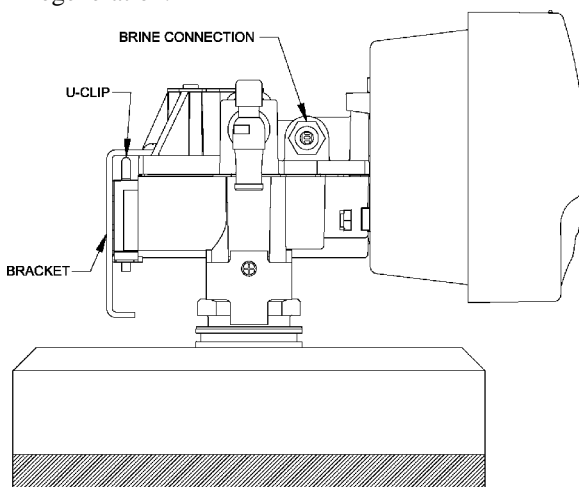
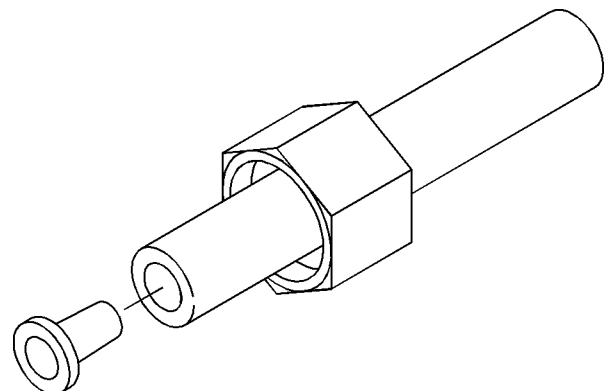

FIG. 6
FIG. 7
⚠ CAUTION: When reinstalling back plate to control valve, make sure the u-clip fully engages the two bottom holes of the bracket (Figure 6). Secure bracket from the top with the two mounting screws provided.
Refer to Figures 6 & 7.
- Slip the white nut over one end of the tubing and press the plastic insert into the end of the tubing (Figure 7). Connect to the brine valve and tighten nut.
- Slip the white nut over one end of the tubing and press the plastic insert into the end of the tubing (Figure 7). Connect to the brine connection on the valve and tighten nut (Figure 6).